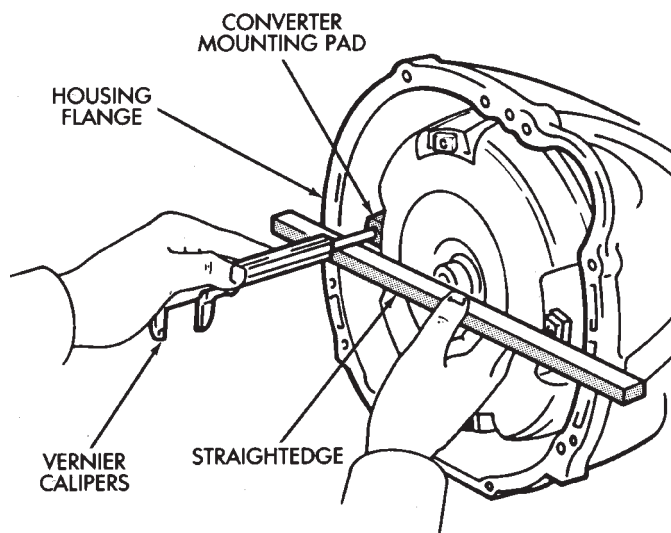

Fig. 71 Checking Converter Installation
(101) Verify that converter is seated by measuring distance between converter housing flange and one of the converter mounting pads (Fig. 71). Use straight-edge and vernier calipers to measure distance. On 6-cyl. transmissions, distance should be 16.5 mm (0.650 in.).